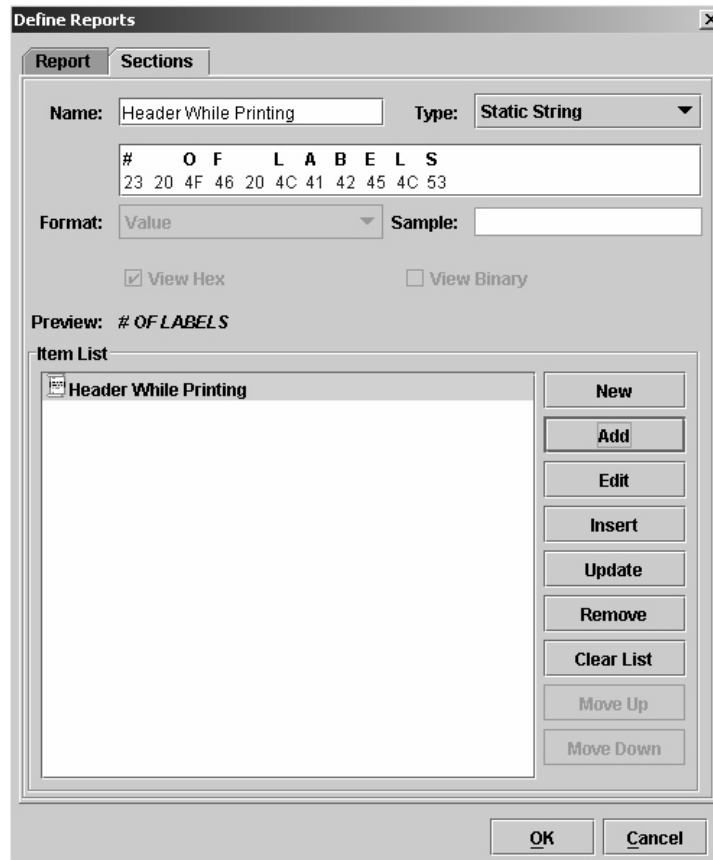

Figure 36. Defining a Header Section
4. Click **Add**. The Header section is added to the Item List pane (Figure 36).